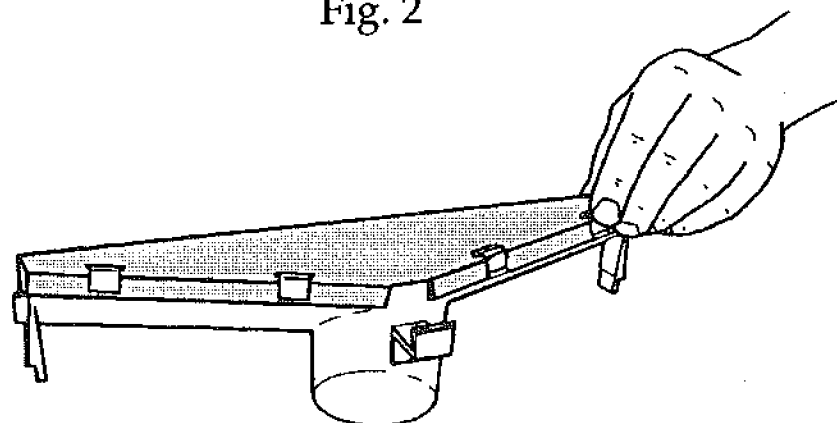

Fig. 3
4. Attach the chute bottom with four clips, as shown in Fig. 3. Make sure the clips are in all the way and the "barbs" fully dig into the plastic dust chute.